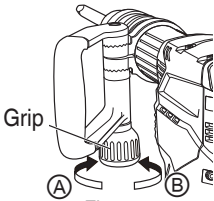

Fig. 4
(1) Loosen the handle by turning the grip in the direction of Ⓐ as shown in Fig. 4.